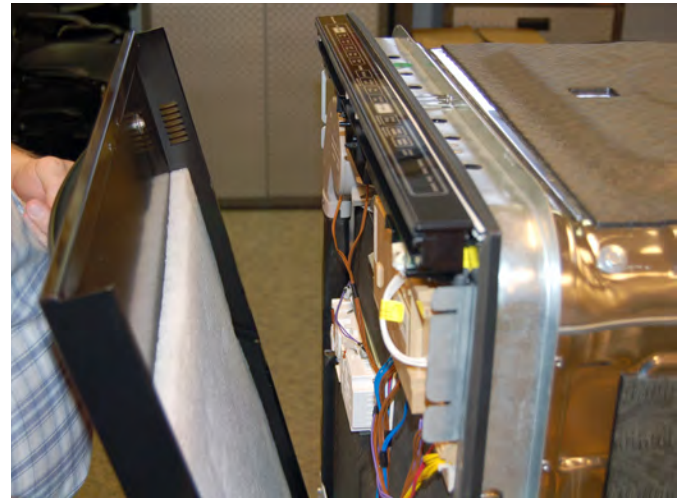

Figure 3
3. Remove the outer door panel, see figure 3.